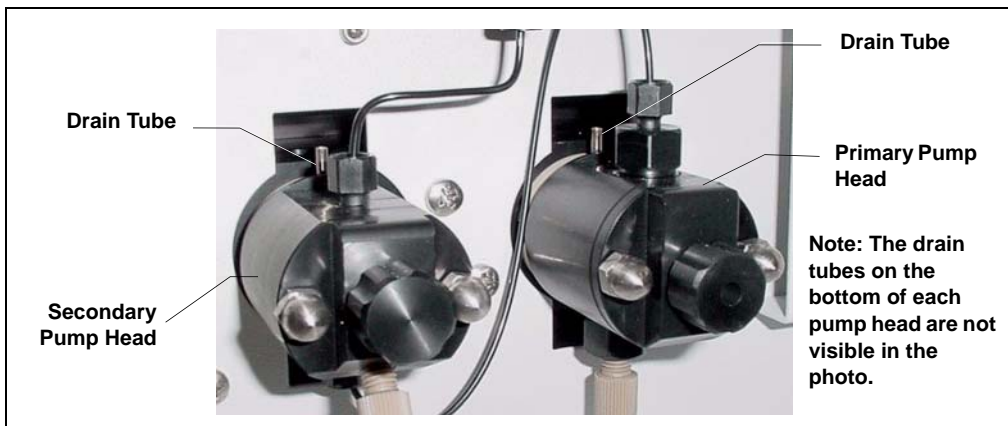
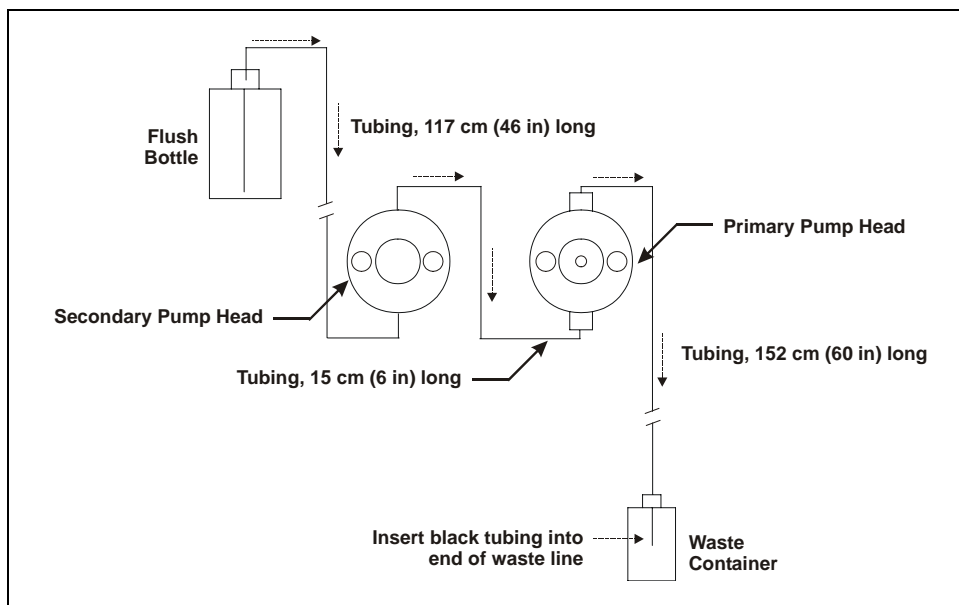

Figure B-113. Primary and Secondary Pump Heads with Drain Tubes
Figure B-114. Piston Seal Wash Flow Schematic
4. Install the tubing as follows (see Figure B-113 and Figure B-114):